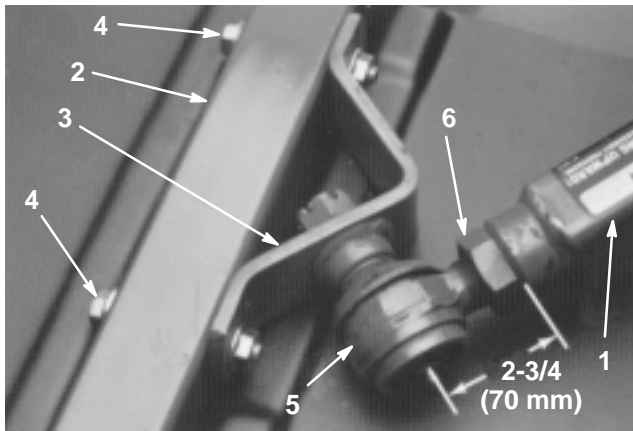

Figure 5
3. Measure the distance from the end of the right-hand push arm to the center of the ball joint (grease fitting) (Fig. 5). The distance should be 2-3/4 in. (70 mm). If the distance is not 2-3/4 in. (70 mm), loosen the jam nut securing the ball joint to the push arm and rotate the ball joint in or out until the correct distance is attained (Fig. 5). Do not tighten the jam nut at this time.
- Tighten the large jam nut securing the ball joint to the push arm (Fig. 5). When tightening the jam nut, hold the ball joint straight to permit proper oscillation during raising and lowering of the cutting unit. Carefully remove the wood block holding the push arm down.